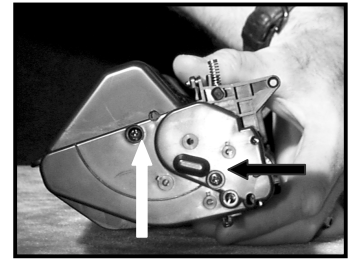
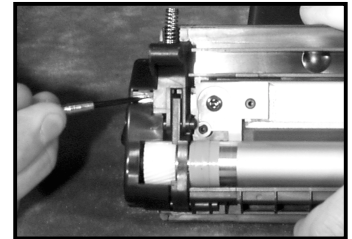
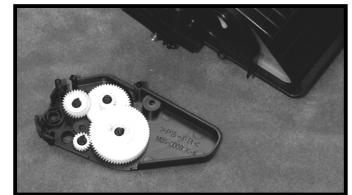

Figure 9a
Figure 9b
Figure 10
- Place the toner hopper on the work area with the magnetic roller facing you. Remove the two (2) screws from the left side of the cartridge (Fig. 9A) and release the clip (Fig. 9B). Next, remove the left end-cap (keep it in an upright position to prevent the gears from falling off Fig. 10). Carefully remove the magnetic roller by first lifting the left end of the roller and then gently pulling it to the left. Note the location of all peripheral components on the mag roller (bushings, brackets, etc (Fig 11). Use compressed air to remove residual toner from the surface of the mag sleeve and inspect for damage. Set mag sleeve aside or replace if necessary (PN# H4MR10).